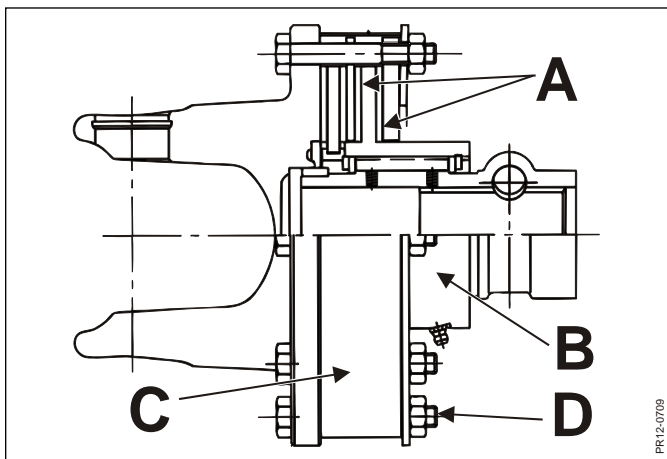

Fig. 7-4
- Fig. 7-4** 1) Disassemble the clutch and clean all parts of possible rust.
- Fig. 7-4** **IMPORTANT:** The outer metal band **C** indicates whether the tightening of the springs is correct. Tighten the bolts **D** just so much that the metal band **C** can be turned (max. 0.5 mm play).